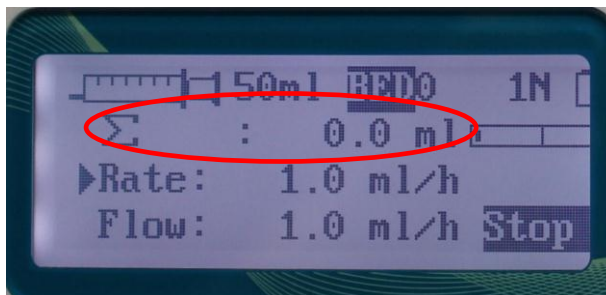

Figure 13
- 2 Press the **CLEAR** key once as shown in Figure 13, and the accumulated volume will become ‘0’ and begin to be calculated anew.